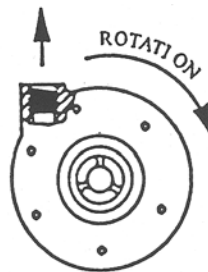

Figure 1: Direction and Port Location
3) When the pump is ready to run, bump start the motor to check rotation and configuration. (see **Figure 1.**). Operating the pump in reverse rotation will result in reduced performance, and will damage the pump.